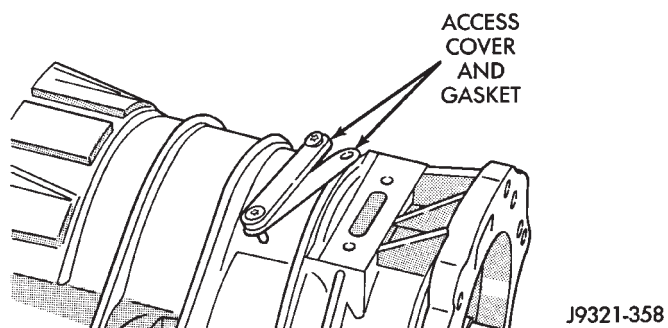

Fig. 14 Removing/Installing Access Cover And Gasket
(4) Remove access cover and gasket (Fig. 14).